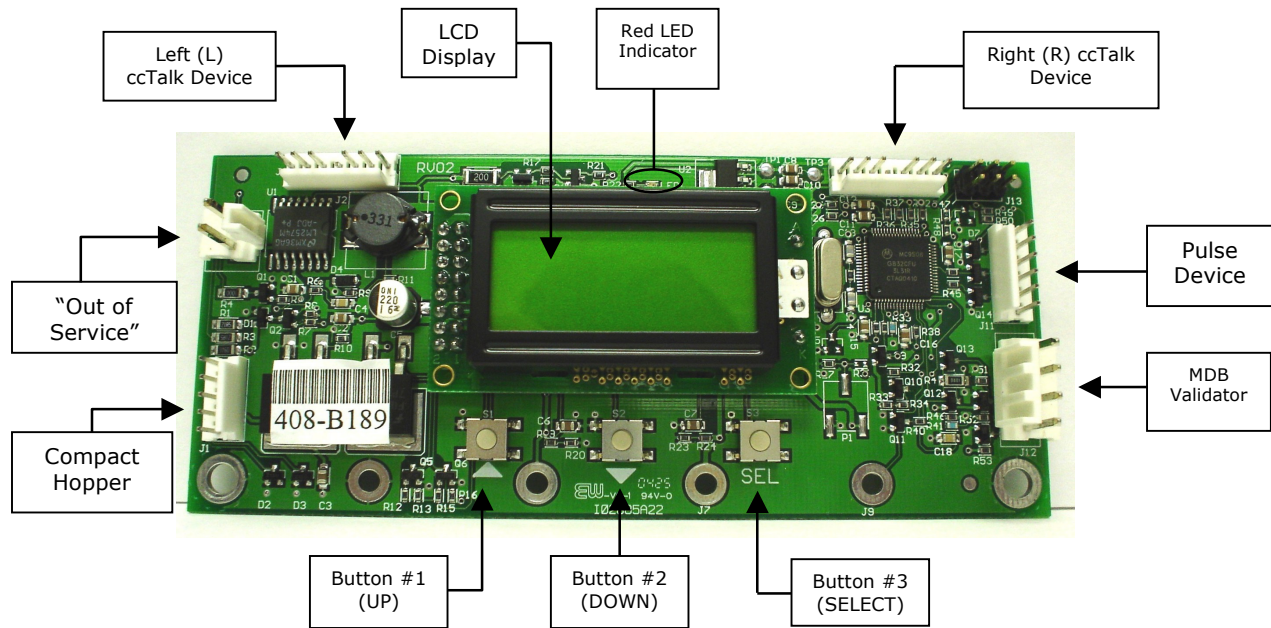

Figure 1 – Main Logic Board
Power-ON the changer, and allow it to run through its start-up procedure, which may take up to a minute or more. During this time, you will hear the validator motors cycling. This is normal. After waiting the allotted time, the changer will be in its Standby state, ready to accept bills or coins. In this state, the MLB display's backlight will be on continuously, and the screen will display the current count of total dollars changed by the machine. Additionally, the board's red LED will blink once per second to indicate that the unit is getting power and functioning normally. (See Figure 1.)
Your changer comes preset with default operational settings that are easily reprogrammed to meet your desired application. Programming is done using the three buttons and LCD display located on the Main Logic Board as an interface. (See Figure 1.)
ccTalk: Select this option if using one or more hoppers with a ccTalk serial interface to the Main Logic Board (MLB). Once selected, enter the number of ccTalk hoppers – one or two – to be used in the changer. *Note: Each Logic Board has the capacity to control two ccTalk hoppers, left and right; but, if only one is used, it must be plugged into the left-side connector (see Figure 1 for the ccTalk device connections on the MLB). Further Note: If your model changer has two Logic Boards and two hoppers, then only one hopper will be controlled by each board; select '1' as the number of ccTalk hoppers on both boards.*
ccTalk: This option should be selected if the installed coin acceptor communicates with the Main Logic Board using ccTalk serial communication protocol (see Figure 1 for the ccTalk device connections on the MLB; contact the coin acceptor's manufacturer or American Changer if help is needed). After choosing ccTalk, the program prompts for specification of the currency type that will be processed by the coin acceptor. Choose either US or Canadian coins.
Pulse: If the installed coin acceptor communicates with the Logic Board using pulse protocol, select 'Pulse' (the Condor Plus uses Pulse communication). Following this, the program will request specification of the logic level used to enable the coin acceptor, high (Hi) or low (Lo) (for the Condor Plus, select high). ***Note:*** The Logic Board can only control one pulse device; if a pulse validator is installed, a pulse coin acceptor cannot be (see Figure 1 for the pulse device connection on the MLB).
MDB: Select 'MDB,' and then enter how many MDB validators are installed in the changer – either one (1) or zero (None!). (See Figure 1 for the MDB validator connection on the Main Logic Board.)
Pulse: Select 'Pulse,' and then choose either one (1) or zero (None!) to specify the number of pulse validators that are inside the unit. If '1' is chosen, then the program will further prompt for whether the validator is enabled using a logic-high (Hi) or a logic-low (Lo) signal; either must be chosen. ***Note:*** The Logic Board can only control one pulse device; if a pulse coin acceptor is installed, a pulse validator cannot be. (See Figure 1 for the pulse device connection on the MLB.)